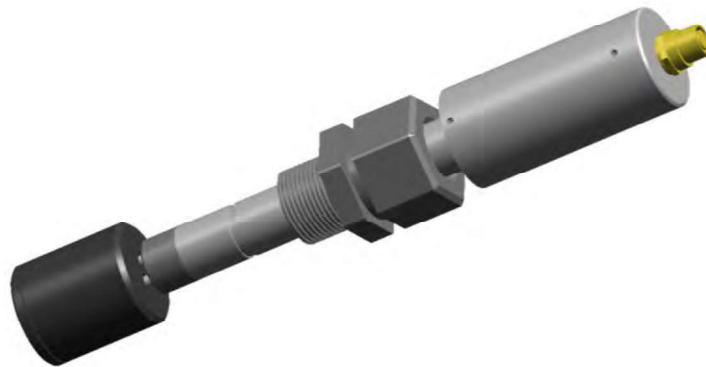

Figure 9. Plug the sensor into the calibration cap
- Plug the sensor to the calibration check cap and wait for at least for 15 minutes for the sensor to carry out three measurements (figure 9)